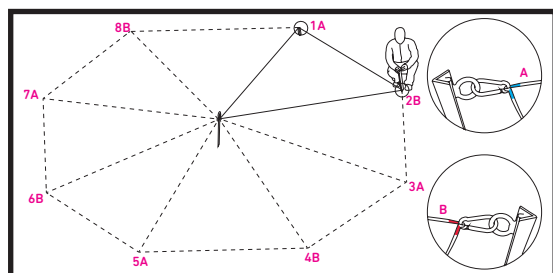

Fig. 5
7. Unfold the measuring tool to form a triangle. Fasten the carabiners attached to the measuring tool to metal rings at try square anchors (Fig. 5).
5. Mark the 8 points one by one following the rules from page 11 (points 3-12). Instead of driving anchors into the ground, mark every anchorage point with chalk. For tents with two or more poles, first define the places to put the poles, then mark the anchorage points (according to Fig. 5).